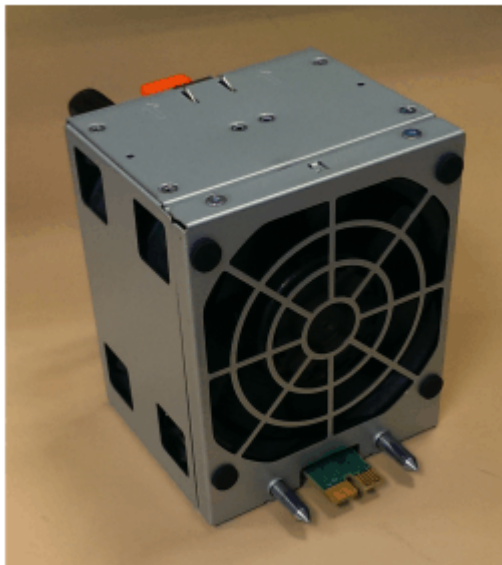

Figure 90. Fan module orientation
1. Hold the fan module with the release tab on top and the connector pin on the bottom, as shown in Figure 90 on page 78.